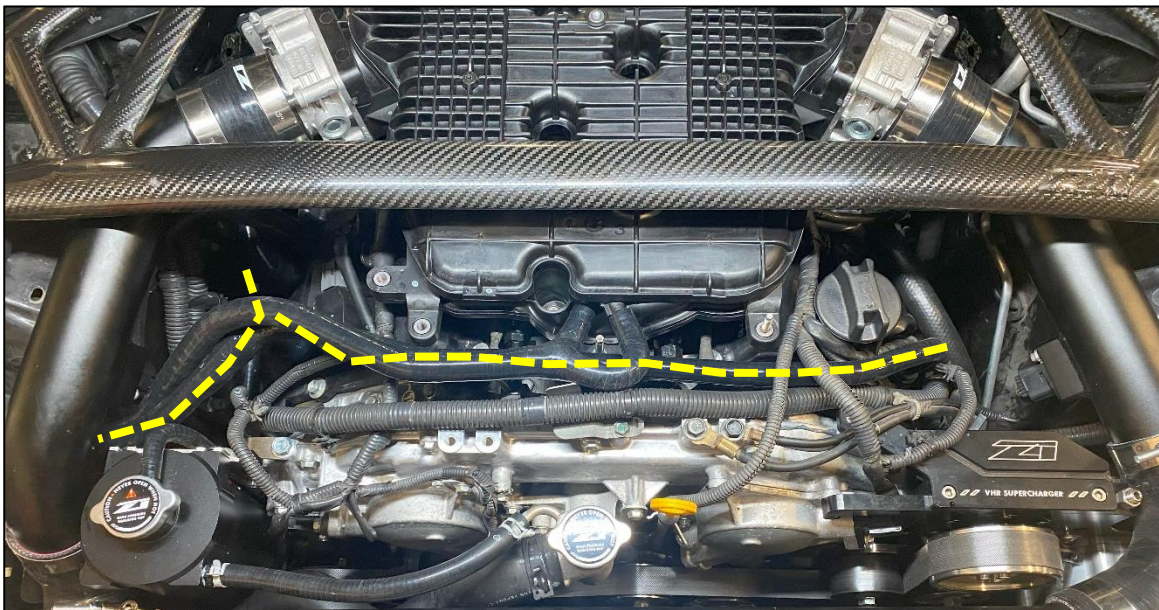

Figure 7
11. Locate the Feed Line Hose. Place the (2) two ends on each PCV Port on each Valve Cover. Run the Other end of the Hose under the Intake Tube towards the Catch Can. *Figure 7.*